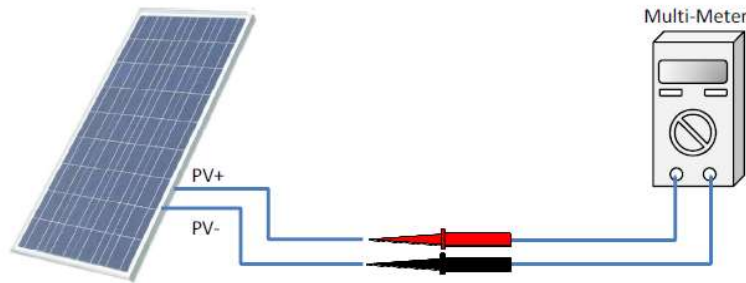

Figure 3-22 Polarity Check
- C. Check the polarity (**Figure 3-22**) before terminating the DC
Figure 3-22 connect the DC cable (Standard wire box)